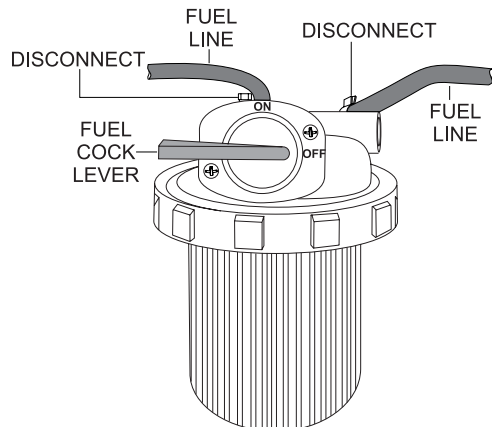

Figure 40. Fuel Filter Disconnection
1. Place the **fuel cock lever** (Figure 40) in the **OFF** (closed) position.
2. Disconnect the **fuel lines** (Figure 40) from the fuel filter.